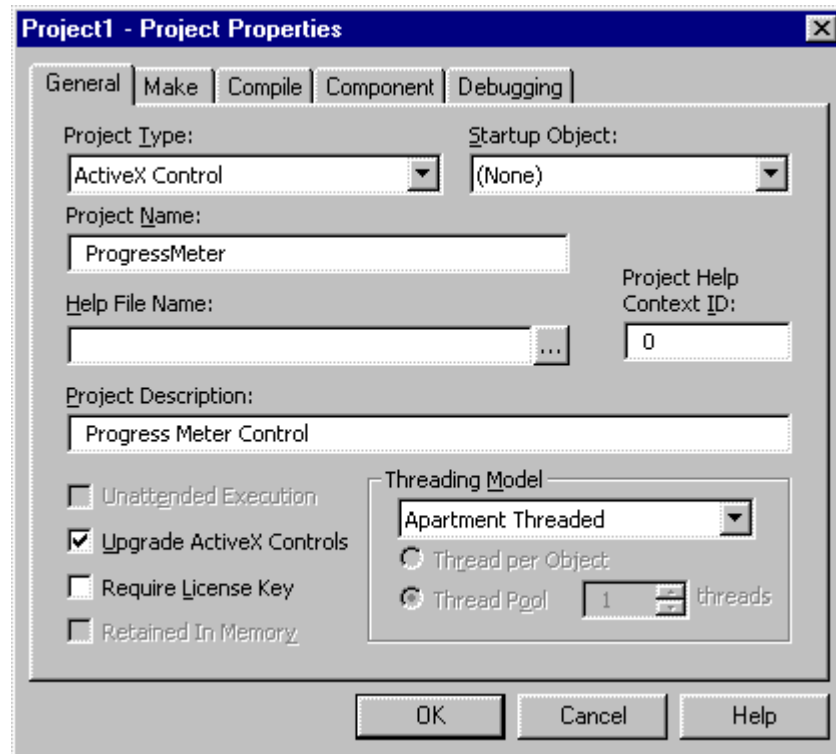

Figure 3. Set the project properties before doing anything else.
2. **Choose the Project|Project1 Properties**, and fill in the properties as shown below, in Figure 3, and then dismiss the dialog box: